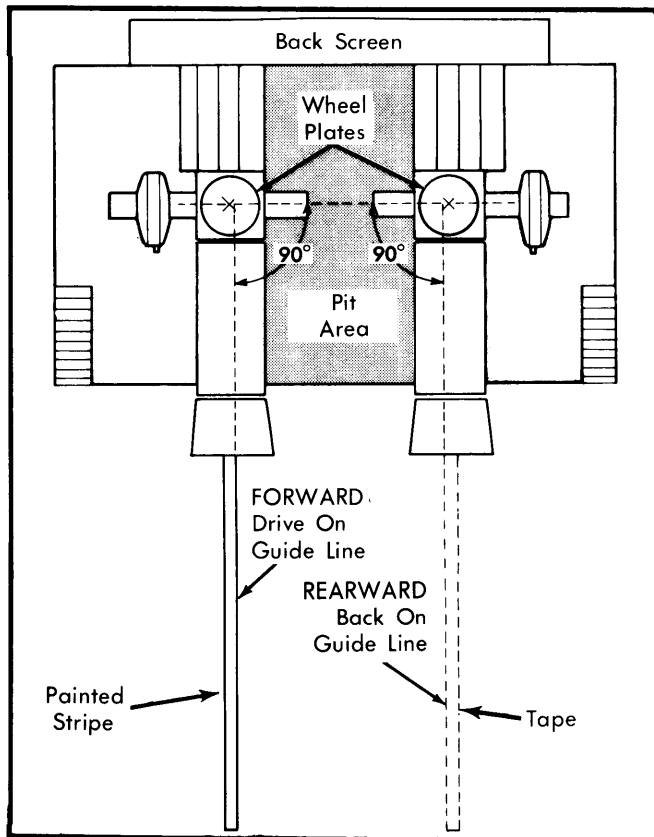

Fig. 16 Typical Alignment Machine Set Up For Eldorado & Seville Rear Wheel Alignment
1) Place tape on floor from alignment wheel plate rearward for 20 feet. See Fig. 16. Back vehicle onto alignment machine as straight as possible, with rear wheels on wheel plates.
Camber - 1) Back vehicle onto alignment machine. See CADILLAC (Eldorado), Fig. 16. Camber adjustments are made by adjusting eccentric cam and bolt assembly located at in-board mounting of strut rod.